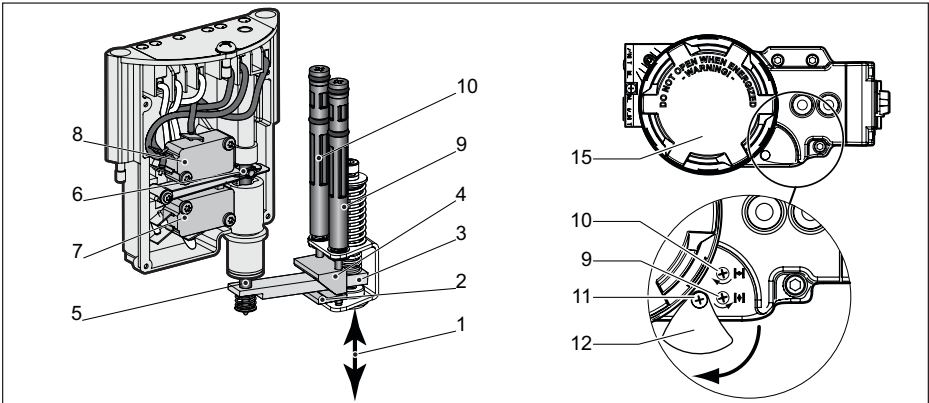

Fig. 5.2 Working principles Switch Operating Mechanism
5.2.3 Working principles Switch Operating Mechanism (see Figure 5.2)